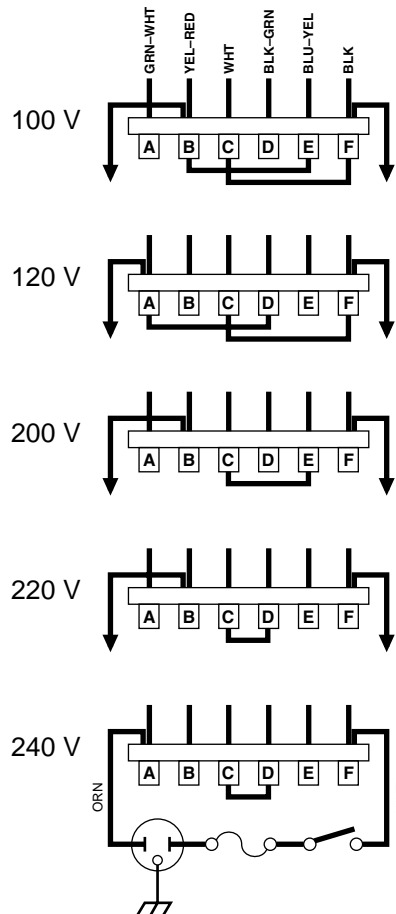

Fig. 3.10 AC Mains Voltage Conversion
4. Change the appropriate jumpers for the desired operating voltage (see Figure 3.10).